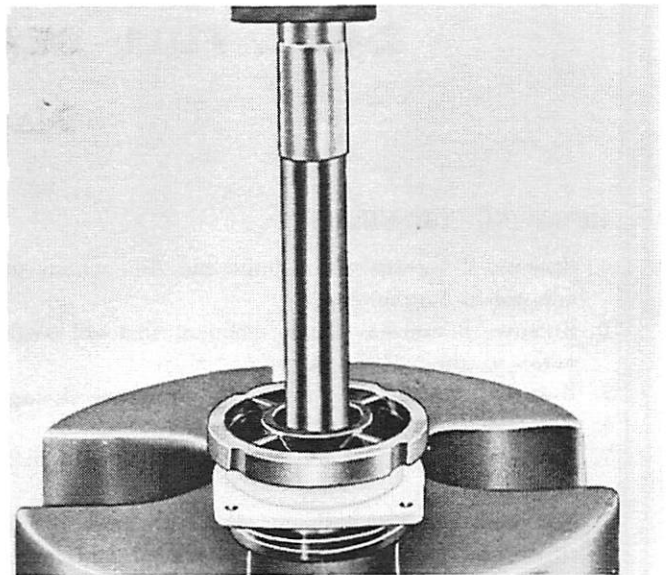

Figure 6. Removing Ball Bearing and Roller Bearing from End Cap
2. Remove ball bearing and roller bearing from upper end cap with Needle Bearing Drive (91-24715A2). Place mandrel into roller bearing and press out toward ball bearing end to remove roller and ball bearing. (Figure 6)